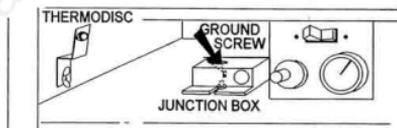

FIGURE 27
6. Attach and secure the bracket holding the thermidisc to the securing stud at the bottom left of the unit. Ensure that the thermidisc touches the firebox wall. **FIGURE 27**